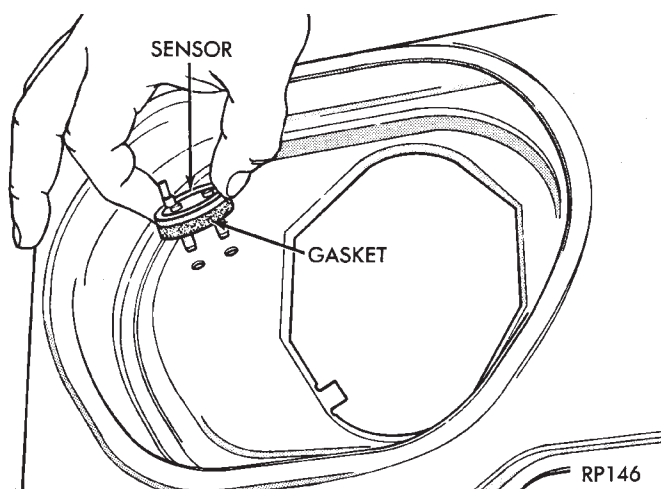

Fig. 5 Air Temperature Sensor Installation
- (1) Position gasket on the sensor. Install sensor (Fig. 5).
- (2) While supporting the sensor on outer diameter, install new retainer clips securely. Ensure the gasket compresses to form an air seal. **Do not attempt to adjust the sensor.**